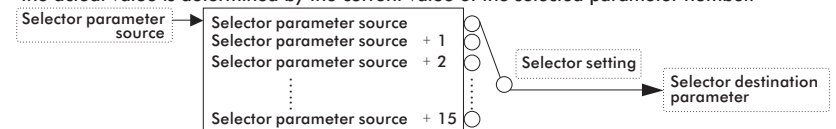

Figure 6-14-3 Selector
- Principle explanation: As shown in figure 6-14-3, when it sets to 0~16, selecting an address from 16 consecutive addresses with the selector parameter source as the first address, and pass the current value of the address to the selector destination parameter. when it sets to 200~65535 as an address, this address is the selected parameter number, and the actual value is determined by the current value of the selected parameter number.